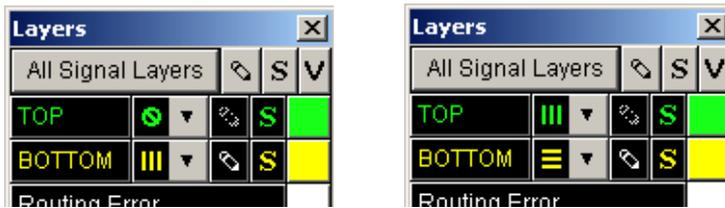

Figure 16. Settings in the Layers box for single-sided routing on the bottom layer and double-sided routing on both layers.
3. We must now tell SPECCTRA to route only the bottom layer. Choose View > Layers. . . from the menu bar. Turn routing off for the top layer by clicking on the drop-down menu next to TOP as shown in figure 16 on the next page and selecting the \odot symbol. You might like to experiment with the setting of the BOTTOM layer. The directions are hints to the router but in practice tracks will run in both directions. Click Close when you have finished.
1. If the routing has almost worked (only one or two unrouted segments), try changing the hints given to the router. For the one-sided board there is only the suggested direction of tracks in figure 16. It is best to unroute the board and begin afresh. Choose Edit > Delete Wires > All Wires from the menu bar of SPECCTRA or reload the previous version of your board in PCB Editor.